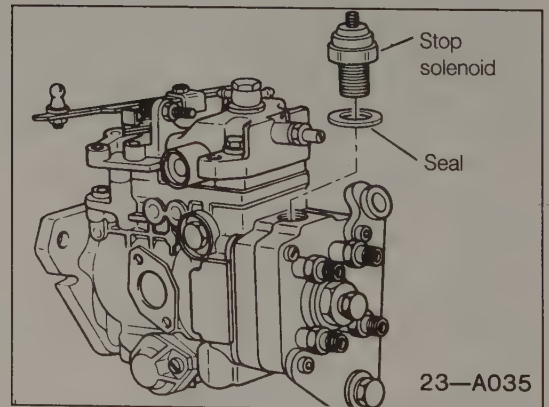

Fig. 5-23. Stop solenoid removed from injection pump.
2. Disconnect the electrical wiring from the stop solenoid. Clean the area around the solenoid, and remove it. See Fig. 5-23.